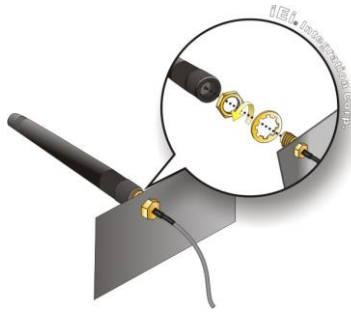

Figure 3-10: Securing SMA Connector and External Antenna Installation
**Step 9:** Install the external antenna (Figure 3-10).